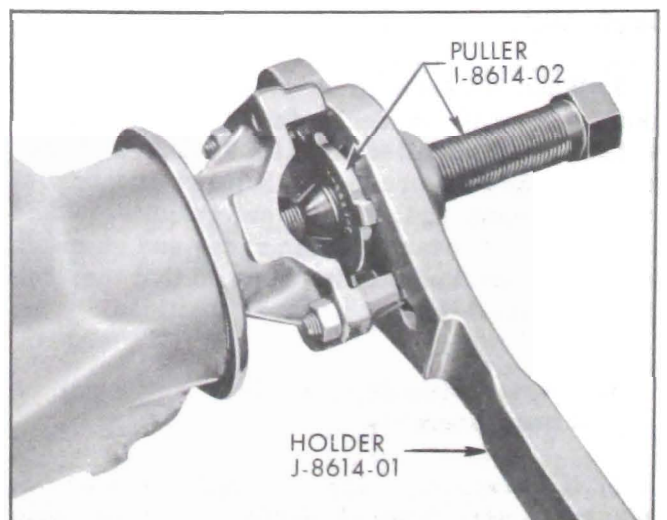

Figure 6-15—Removing Pinion Flange
4. Pull pinion flange from pinion using Puller J-8614-02 in Holder J-8614-01. To install puller, back out puller screw, insert puller through holder and rotate 1/8 turn. See Figure 6-15.
1. Remove pinion assembly and press off rear pinion bearing using Remover J-8612 and Holder J-6407. See Figure 6-15.